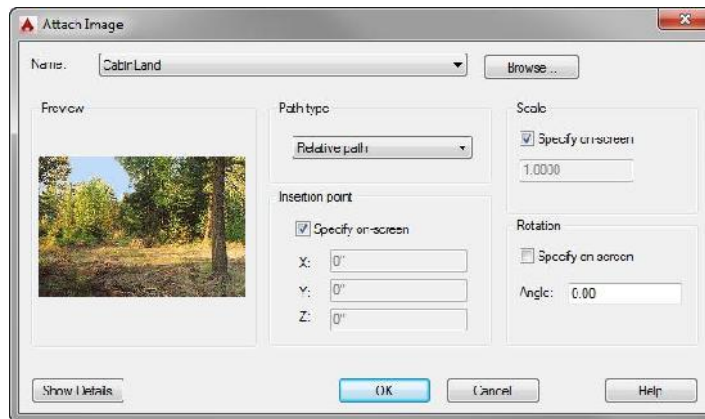

FIGURE 13.30: Select Relative Path for the path type in the Attach Image dialog box.
6. Select Relative Path for the path type. Check the Specify On-Screen options for both Scale and Insertion point (see Figure 13.30), and then click OK.